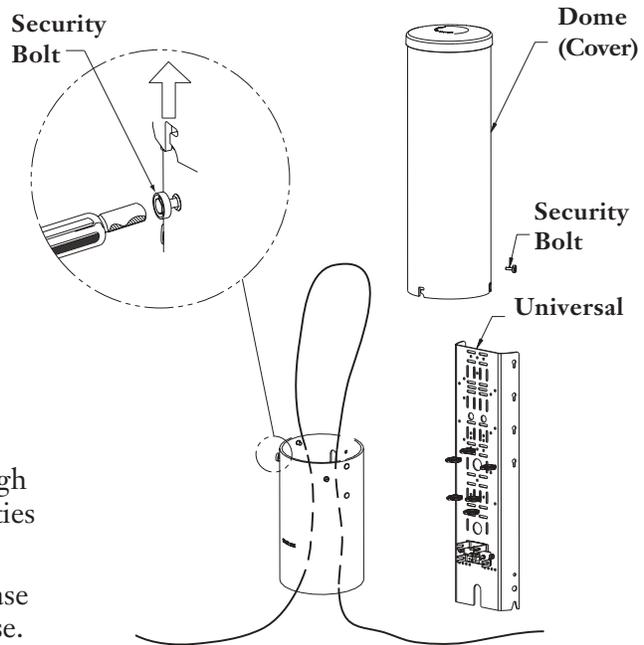

Figure 2
- Step 4** Feed cable into base, allowing enough slack for splicing/terminating activities (Figure 2).